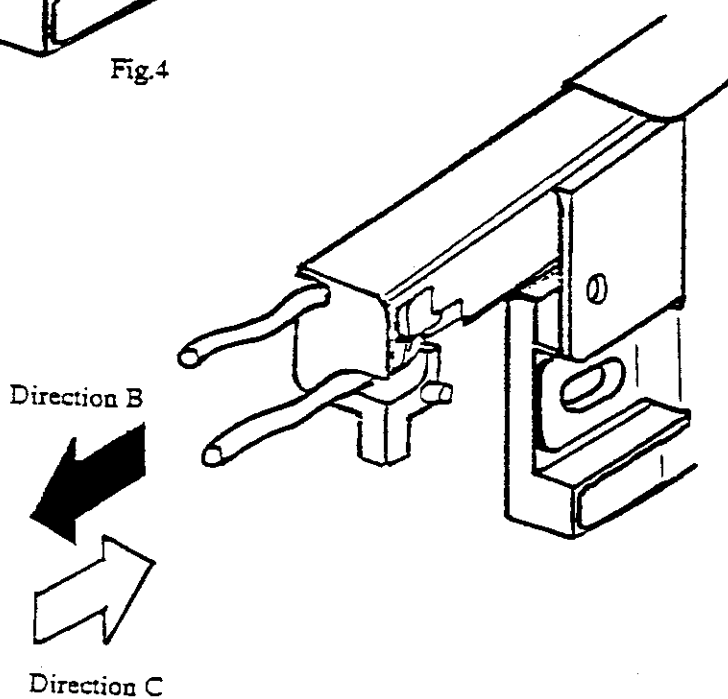

Fig.6
- 3) Draw out the lamp holder①to the direction B, bending the board②.(refer to fig 6)
- 4) Insert the spare lamp holder to the direction C.(refer to the fig 6)
- 5) Push the lamp holder①to the position which the projection③is fit in the hole④ of rear side board②.